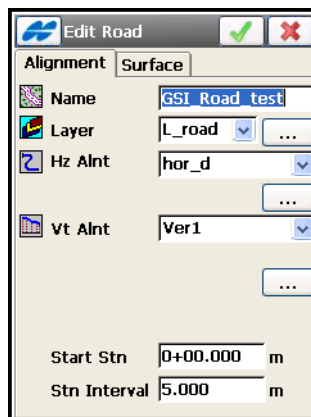

Figure 7-2. Edit Road Alignment
1. On the **Roads** screen either double-tap the road or tap the **Edit** button. The **Edit Road** screen displays (Figure 7-2).